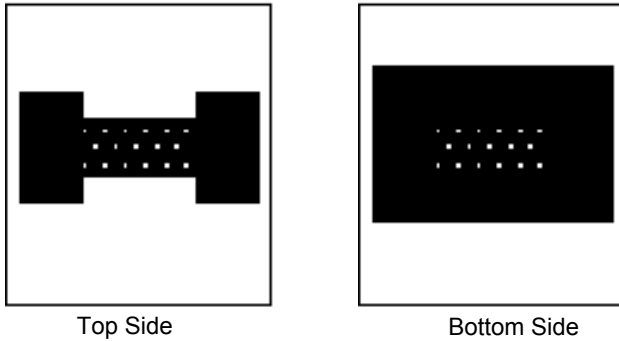
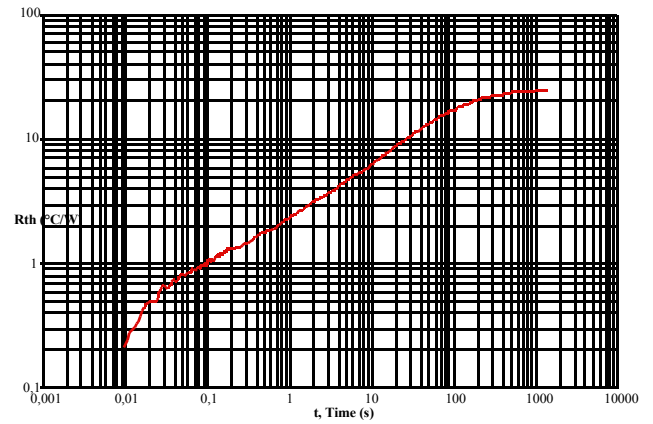

Figure 19. PCB Test Layout
Figure 20. 33886 Thermal Response
**Example** Characterization on a double-sided PCB: bottom side area of copper is 7.8 cm2; top surface is 2.7 cm2 (see Figure 19); grid array of 24 vias 0.3 mm in diameter.
Figure 20 shows the thermal response with the device soldered on to the test PCB described in Figure 19.